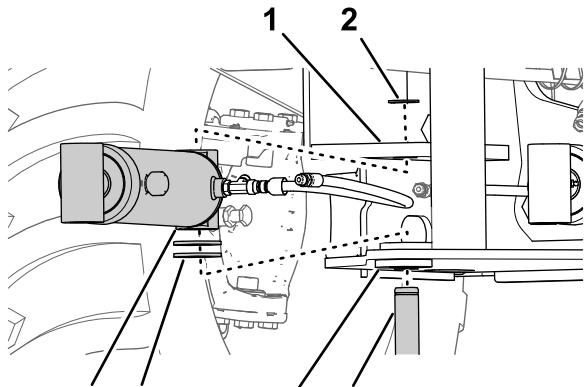

Figure 14
4. Remove the cylinder and align the washer(s) that you determined in step 3 on top of the bushing in the support frame (Figure 14).
6. Align the mounting fitting at the fixed end of the pivot cylinder between the bushing/washers and the mounting lug (Figure 14).
7. Align the holes in the mounting lug, mounting fitting, washer(s), and the bushing (Figure 14).
8. Secure the cylinder to the support frame with a pin (1-1/4 x 7-5/8 inch) that you prepared in step 1 and install a snap ring (1-1/8 inch) into the other groove in the pin (Figure 14).